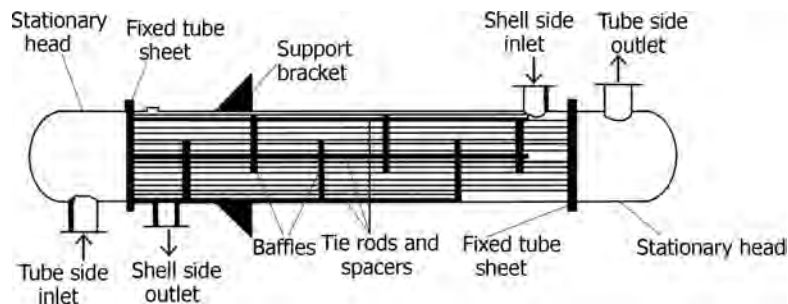

FIGURE 10.3 1–1 Fixed tube sheet shell and tube heat exchanger with baffles.
- Odd numbers of tube passes have more complicated mechanical stresses and so on. An exception is 1–1 exchangers that are sometimes used for vaporizers and condensers (Figure 10.3).
- Figures 10.3–10.7 illustrate different shell and tube heat exchangers.
- A fixed tube sheet heat exchanger (Figure 10.3) has straight tubes that are secured at both ends to tube sheets welded to the shell. The construction may have removable channel covers, bonnet-type channel covers, or integral tube sheets.